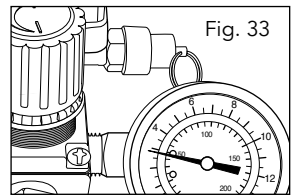

Fig. 33
3. When the ring on the safety valve (10) is released the air discharge should stop (Fig. 33).